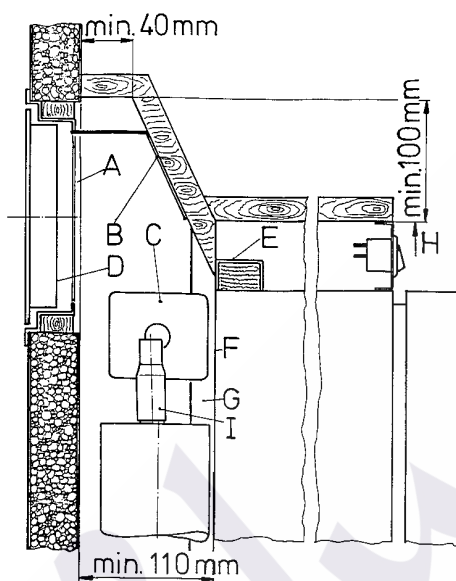
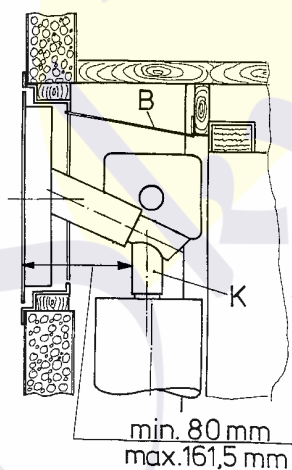

Fig. 6a
Fig. 6b
Locate the lower opening immediately above the floor of the recess, and the upper one as high as possible above the condenser (C) of the refrigeration unit, at least as shown in fig. 6b but if possible as in Fig. 6a.
We recommend fitting the grilles, model **A 1609**, which were specially developed by **Electrolux** for this purpose (shown as D in fig. 6a). It is a good idea, to install the frame **R 1610** (A in the same figure), at the same time. Then the grilles can be easily removed which permits inspection and small repairs to be carried out without the necessity for removing the refrigerator from the recess.
The ventilation passage at the rear of the recess, between the outer wall of the vehicle and the refrigerator (fig. 6a/b), is sealed off against the living space, and so cold draughts are excluded (winter camping) and no flue gases can penetrate into the vehicle. Thus a special flue outlet is no longer necessary – the gases are dispersed through the upper vent grille.
The top of the enclosure above the flue tube (I), fig. 6a, should be covered with aluminum sheet metal, as indicated in (B), to facilitate the heat dispersion.
In fig. 6a/b the letters have the following meaning: